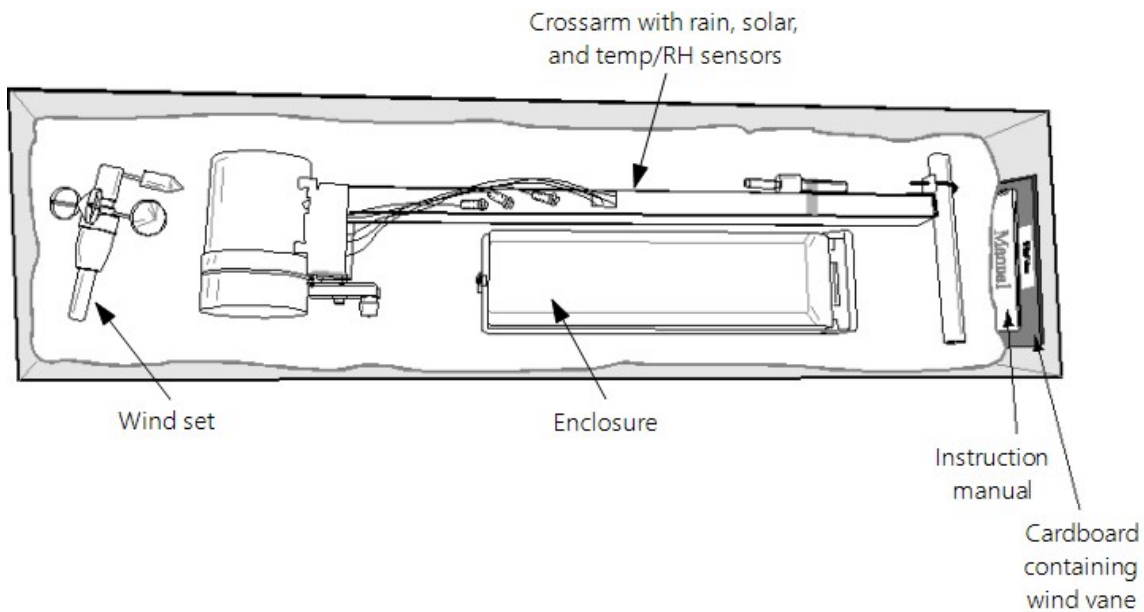
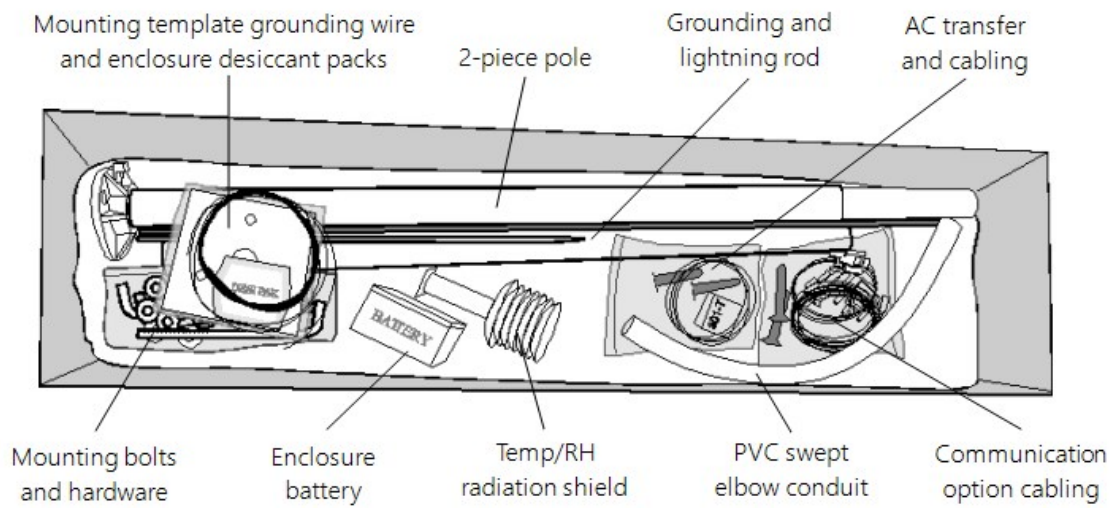

FIGURE 3-3. T107 with the Met One 034B-ETM Wind Sensor, top layer
FIGURE 3-4. T107, bottom layer
7. Check contents against invoice and shipping checklist (FIGURE 3-3 (p. 4), FIGURE 3-4 (p. 5)) and contact your Toro representative immediately about any shortages.